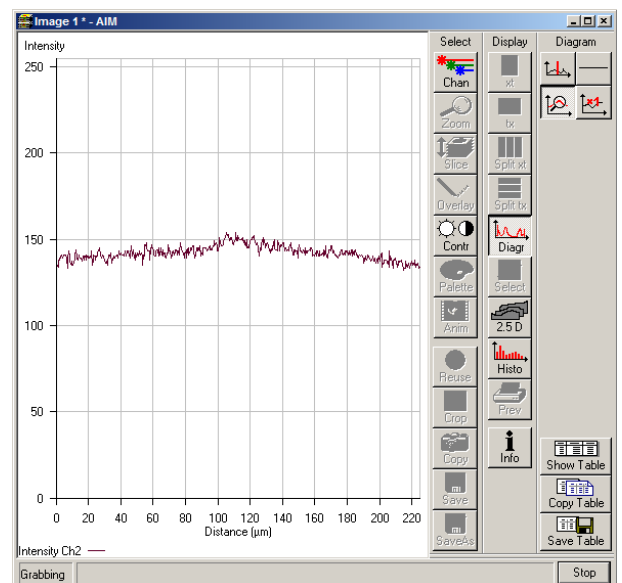

Fig. 4-19 Line diagram at lower cover slip surface
- Continue cautiously moving upwards. The line position will reach its maximum (see Fig. 4-19).